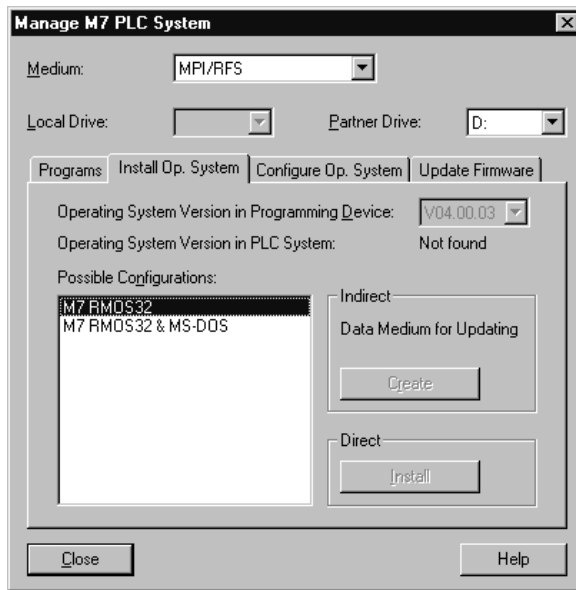

Figure 3-1 "Install Operating System" Tab (on programming device/PC with Windows NT)
4. Make the following selections (see Figure 3-1):